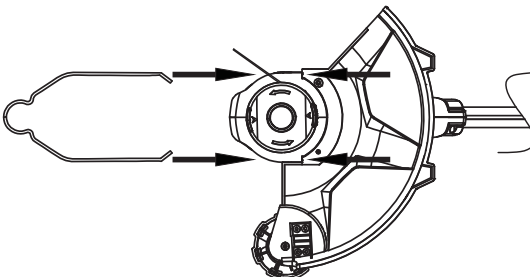

Figure 1
- a. As shown in Figure 1, first install the steel wire frame for protecting flowers and guard cover on the working head shell